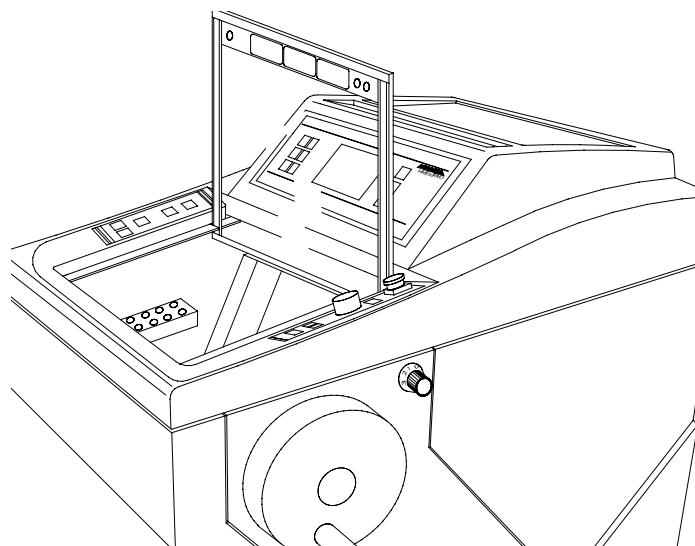

Figure 130. Removal of the heated window.
- Then swivel the window upwards and slightly move it backwards. Then insert it into the anchorage of the guide rails (fig. 130).